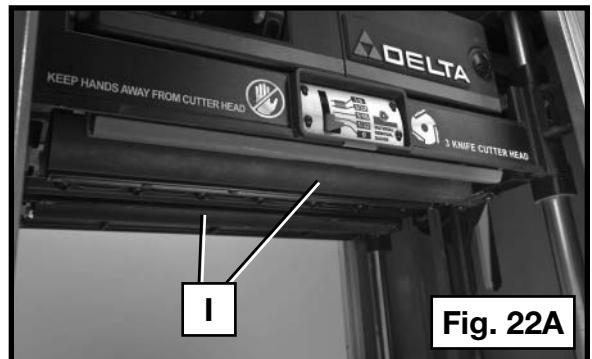

Fig. 22A
8. Take this time also to clean the rollers (I) Fig. 22A.